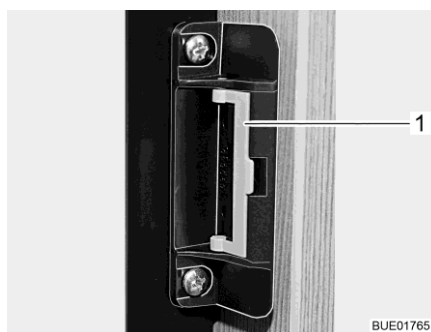
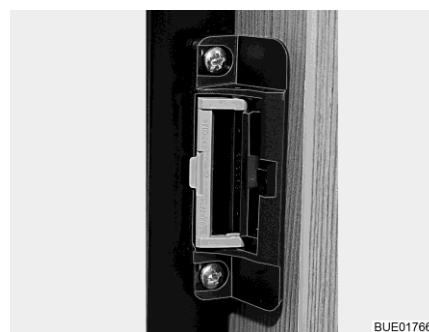

Fig. 111 Locking device in normal position
Fig. 112 Locking device in ventilation position
- Swing the bracket (Fig. 111,1) to the front (Fig. 112).